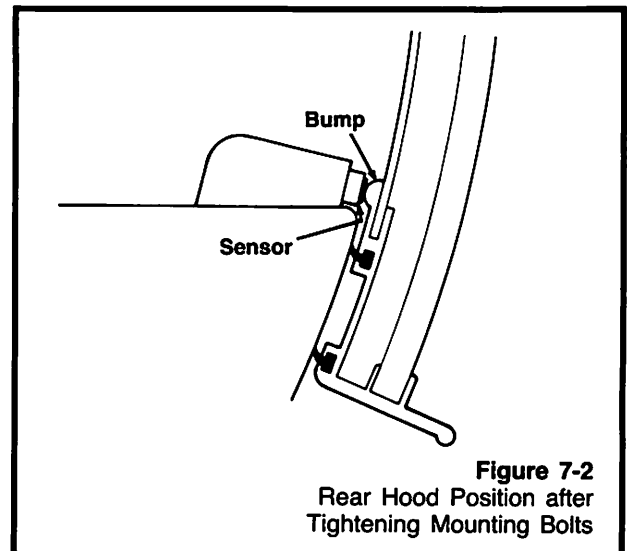

Figure 7-2
- a. The front and rear retainer bumps contact the center of the sensors in the closed position (Figure 7-2). If the alignment is not correct repeat the procedure from step 2 on.